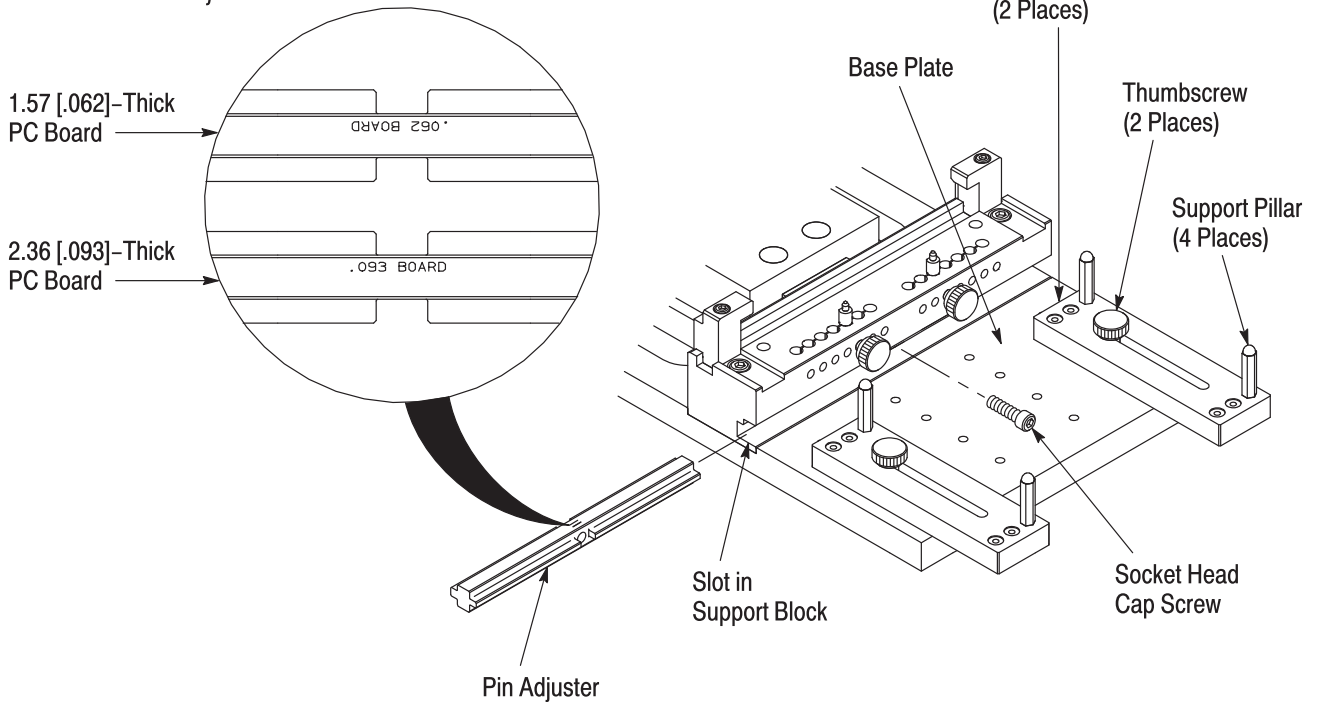

Figure 4
### 3.2. Thickness of PC Board (Figure 4)
2. Slide the pin adjuster out of the slot in the support block. Refer to Figure 4 and orient the pin adjuster according to thickness of the pc board being used.
**NOTE** *Make sure that the text marked on the pin adjuster is oriented as shown in Figure 4.*
### 3.3. Size of PC Board (Figure 4)